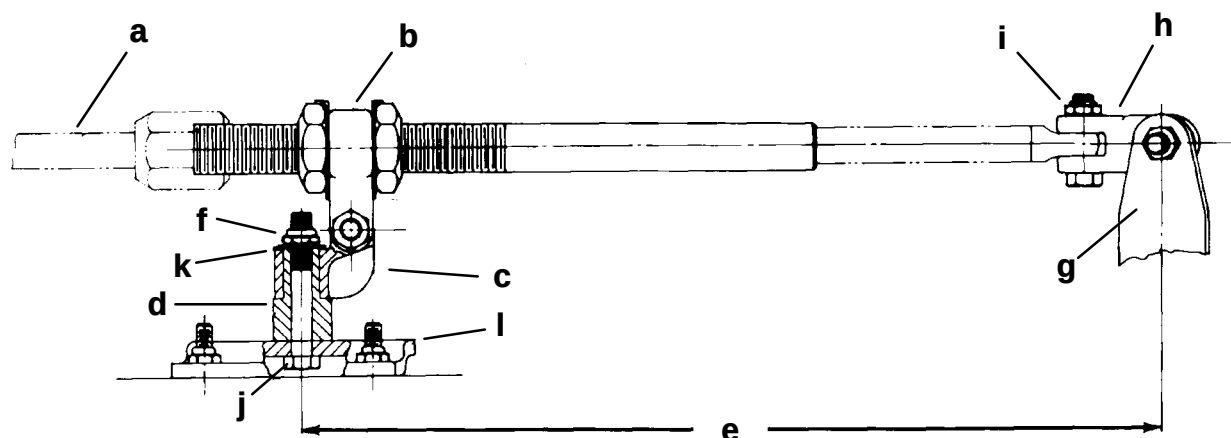
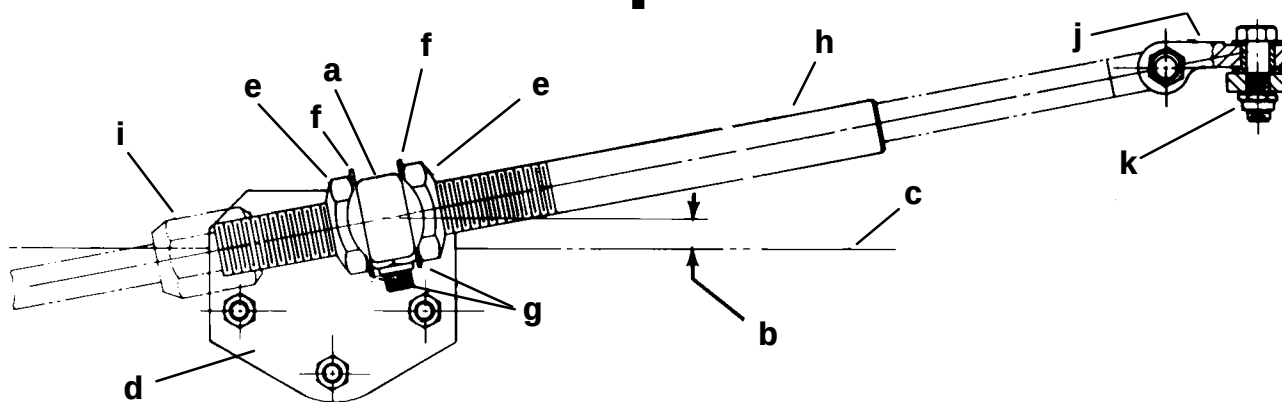

Figure 1
Figure 3
1. Lubricate both holes in pivot block (Figure 1) with Quicksilver 2-4-C w/Teflon.
2. Place pivot block on pivot spacer and secure to transom bracket with 3/8 in. x 2-1/2 in. (9.5mm x 63.5mm) bolt, flat washer and locknut, as shown in Figure 1. Torque locknut to 20 lb. ft. (27.0 N·m).
3. Place Ride-Guide yoke on pivot block and secure with 7/16 in. x 1-3/4 in. (11.1mm x 44.5mm) bolt and locknut, as shown in Figures 1 and 2. Torque locknut to 10 lb. ft. (13.5 N·m), **then back off 1/4-turn.**
4. Install one cable tube jam nut onto steering cable tube. Place tab washer over Ride-Guide yoke, then insert cable tube thru tab washer and yoke. Install second cable tube jam nut onto cable tube but do not tighten at this time. (Figure 3)
centerline and draw a vertical line on transom. (Figure 1)
- b. Position attaching kit on transom so that **transom bracket is centered on the 15 in. (38.1mm)** (Figure 1) at a height where the **center of Ride-Guide yoke is even with, or not more than 1/2 in. (12.7mm)** above top edge of transom. (Figure 3)
2. Install steering cable thru steering cable tube and secure to cable tube with cable attaching nut. (Figure 3) Do not tighten cable attaching nut at this time.
4. Adjust 2 large jam nuts on cable tube of attaching kit, so that **steering wheel** is in normal straight-driving position with outboard in straight-running position. Torque each jam nut to 35 lb. ft. (47.5 N·m), then bend a side of tab washer against flat of each jam nut. (Figure 3)
5. Torque Ride-Guide cable attaching nut (which secures cable to guide tube) to 35 lb. ft. (47.5 N·m). (Figure 3)
4. Check steering system fasteners (at intervals specified, preceding) to be sure that they are torqued to correct specifications. (Figures 1, 2 and 3)